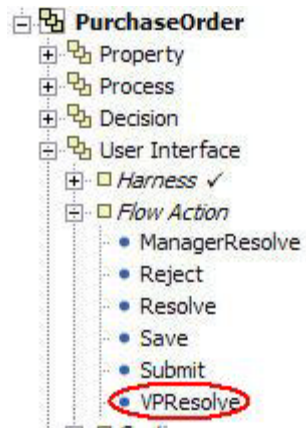
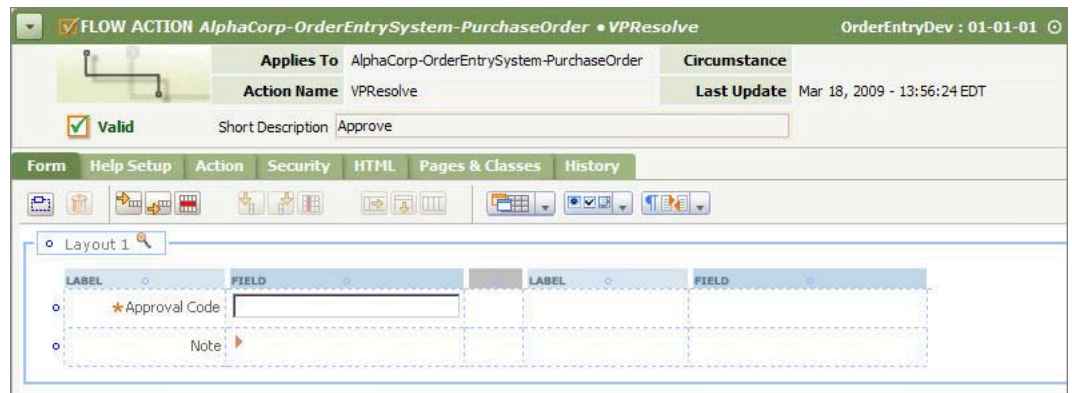

Figure 4-16. VPResolve Flow Action
Figure 4-17. Flow Action – Current Form
2. In the Application Explorer, the flow action you created earlier (VPResolve) appears as part of the User Interface category. Click the VPResolve flow action link to open the rule (Figure 4-16 and Figure 4-17).